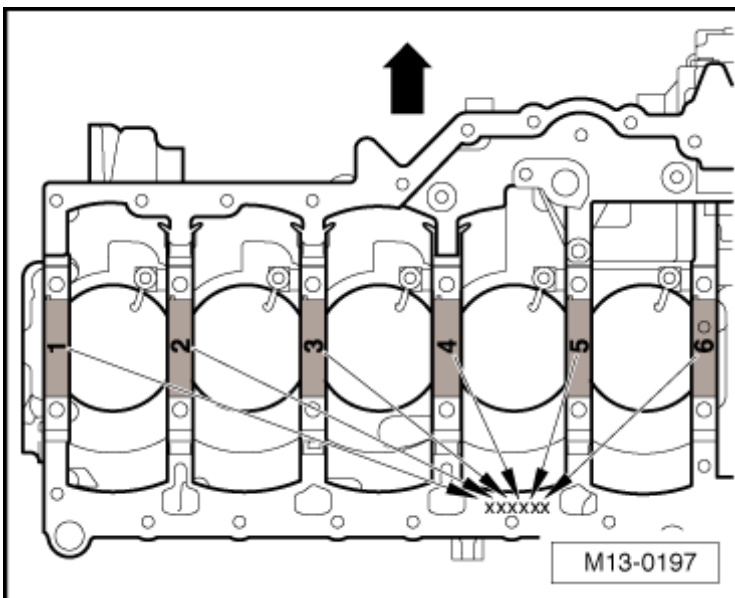

Fig. 18: Identification Of Top Crankshaft Bearing Shells
- Identification for replacement part ordering, refer to **Fig. 18**.